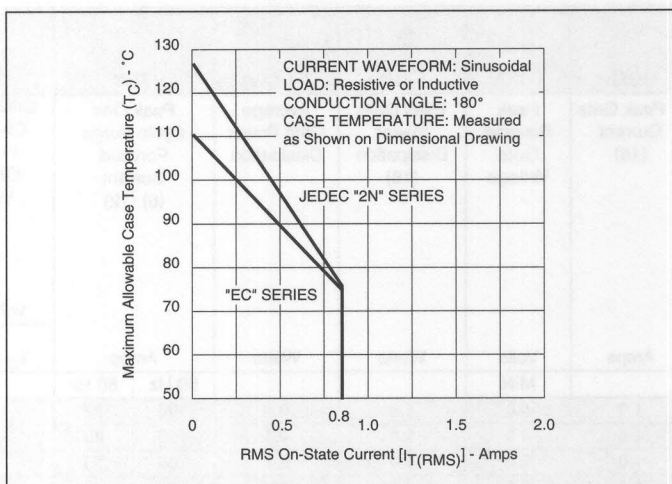

Figure 5.1 Maximum Allowable Case Temperature vs RMS On-State Current (JEDEC "2N" Series and "EC" Series)
- See Figures 5.1 through 5.9 for current ratings at specified operating case temperatures.
- See Figures 5.1 through 5.9 for maximum allowable case temperature at maximum rated current.